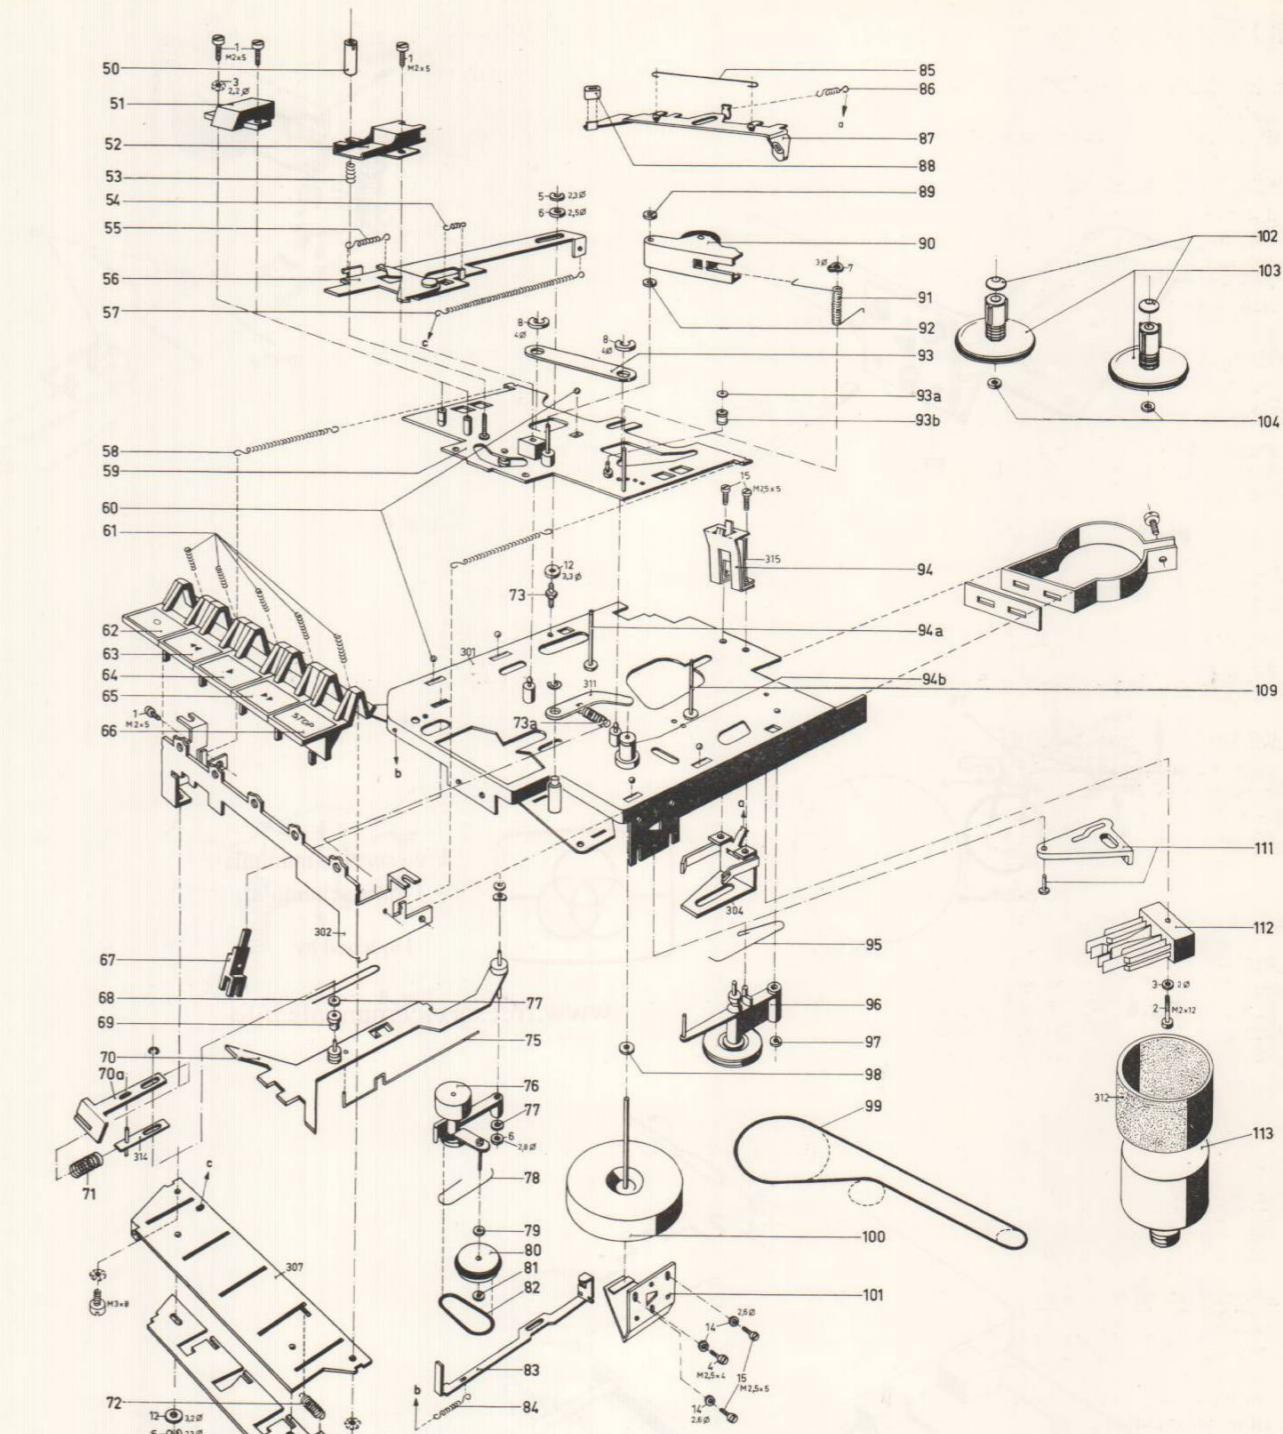

Fig. 8
Replacing drive cord, item 99, see Fig. 8
Replacing the flywheel, item 100, and capstan idler, item 96, see Fig. 8
Replacing winding roller lever 76 (see Fig. 8)
Replacing the turntables, item 103, see Fig. 8